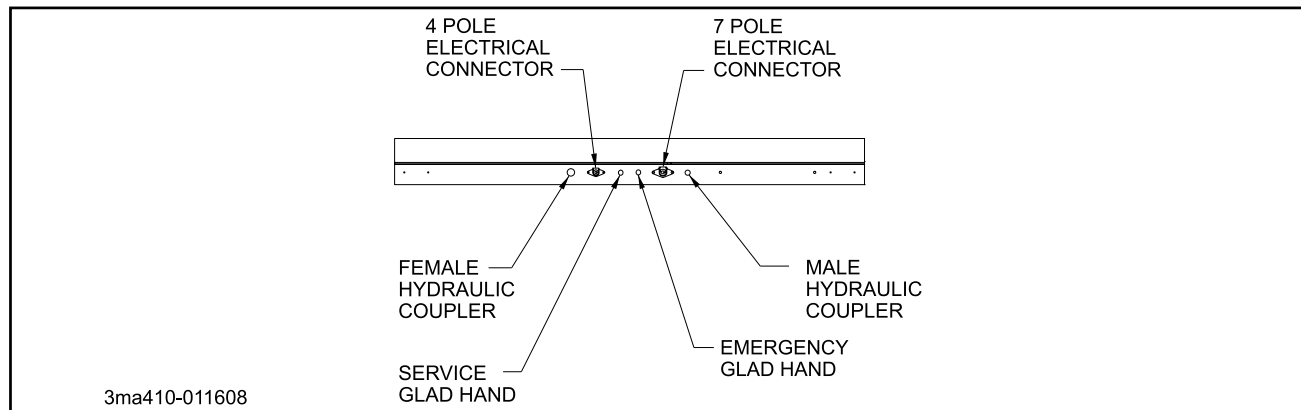

Figure 3-1 Service Hookups
3-2.3 Connect the service and emergency air hoses of the tractor to their respective gladhand on the front of the semitrailer. The tractor's air hose couplings are then attached and locked to the appropriate gladhands; the **red emergency line** to the gladhand with the "**EMERGENCY**" tag, and the **blue service line** to the gladhand with the "**SERVICE**" tag (See Figure 3-1). Chock the semitrailer wheels before activating the semitrailer air supply valve in the tractor. Set the semitrailer brakes.
- 3-4.1 Connect the tractor 7-pole electrical plug to the electrical receptacle on the front of the semitrailer (**See Figure 3-1**).
- 3-4.2 Connect the 4-pole electrical cable from the over-the-cab deck (331) to the semitrailer 4 pole electrical receptacle.